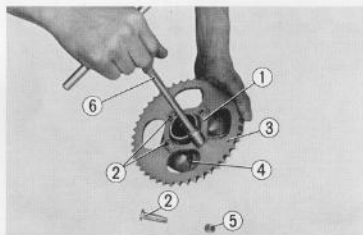

Fig. 4.96 Removing sprocket
9. Draw out the rear axle sleeve from the final driven flange, unlock the 8 mm tongued washer ① and remove the driven sprocket setting bolt ②). Disassemble the final driven sprocket ③ and final drive flange ④. (Fig. 4.96)